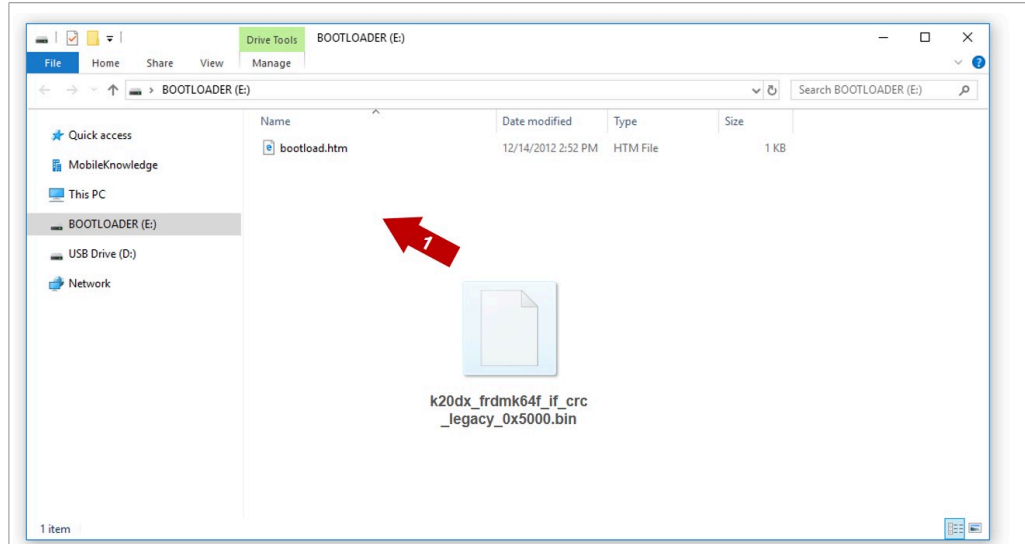

Figure 49. Enter bootloader mode
5. Drag and drop or copy and paste the binary file into the BOOTLOADER drive from your computer file explorer as shown in Figure 49. The FRDM-K64F will automatically un-mount after the drag and drop operation.